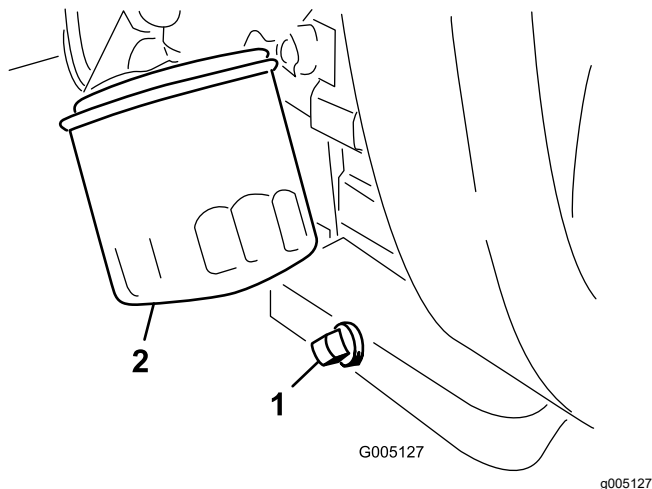

Figure 28
1. Remove the drain plug (Figure 28) and let the oil flow into a drain pan.
2. Clean the threads of the drain plug, apply PTFE sealant, and install the drain plug (Figure 28).
3. Remove the oil filter (Figure 28).